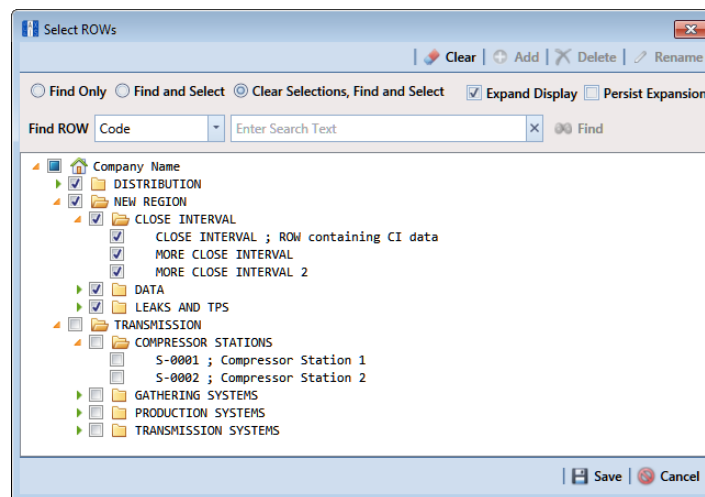

Figure 16-48. Select ROWs
- 1** Select one or more pipeline segments in the *Select ROWs* window (Figure 16-48). Click  **Save** to close the window.